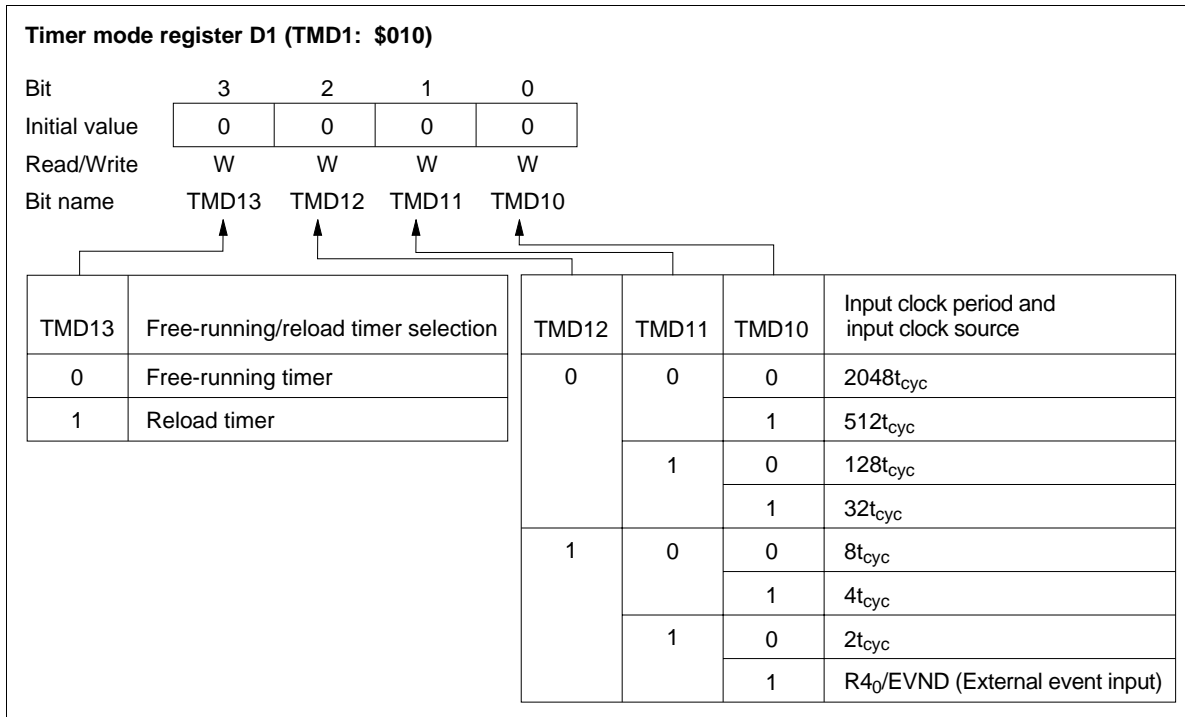

Figure 59 Timer Mode Register D1 (TMD1)
- Timer mode register D1 (TMD1: \$010): Four-bit write-only register that selects the free-running/reload timer function, input clock source, and the prescaler division ratio as shown in figure 59. It is reset to \$0 by MCU reset.